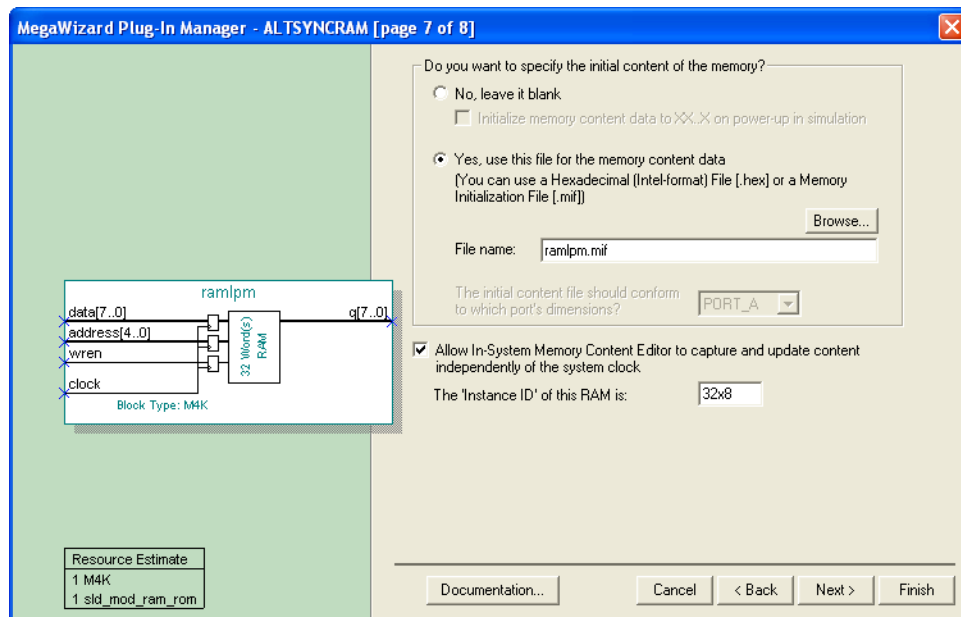
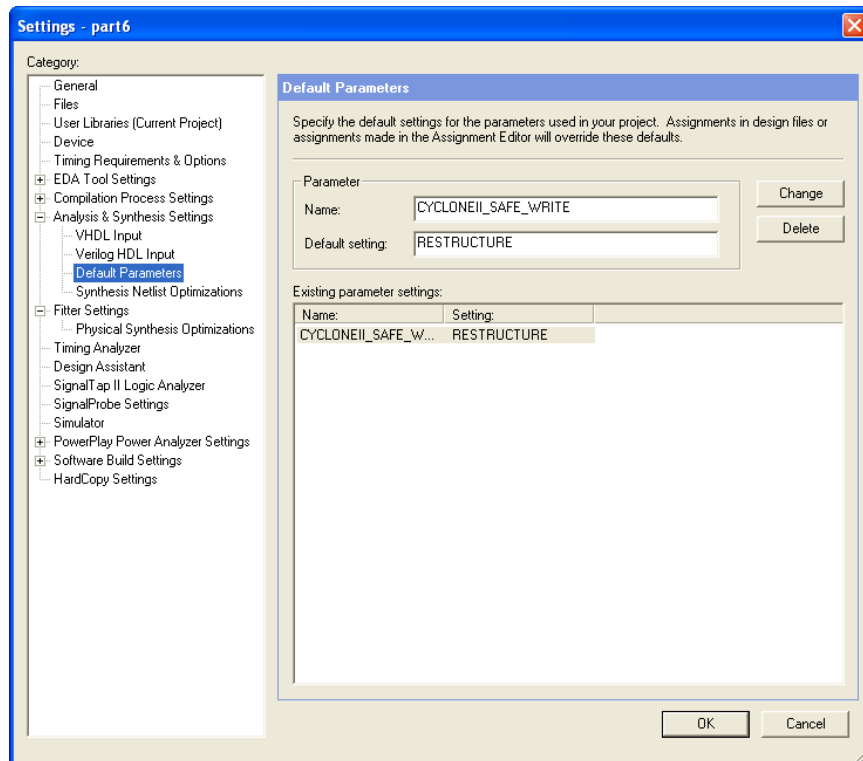

Figure 6. Configuring *altsyncram* for use with the In-System Memory Content Editor.
Figure 7. Setting the *CYCLONEII_SAFE_WRITE* parameter.
1. Create a new Quartus II project for your circuit, and use the MegaWizard Plug-in Manager to again create a single-port version of the *altsyncram* LPM. For Pages 1 to 6 of the Wizard use the same settings as in Part I. On Page 7, shown in Figure 6, specify the *ramlpm.mif* file as you did in Part V, but also make the setting Allow In-System Memory Content Editor to capture and update content independently of the system clock. This option allows you to use a feature of the Quartus II CAD system called the In-System Memory Content Editor to view and manipulate the contents of the created RAM module. When using this tool you can optionally specify a four-character 'Instance ID' that serves as a name for the memory; in Figure 7 we gave the RAM module the name 32x8. Complete the final steps in the Wizard.
3. Before you can use the In-System Memory Content Editor tool, one additional setting has to be made. In the Quartus II software select **Assignments > Settings** to open the window in Figure 7, and then open the item called **Default Parameters** under **Analysis and Synthesis Settings**. As shown in the figure, type the parameter name **CYCLONEII_SAFE_WRITE** and assign the value **RESTRICTURE**. This parameter allows the Quartus II synthesis tools to modify the single-port RAM as needed to allow reading and writing of the memory by the In-System Memory Content Editor tool. Click **OK** to exit from the Settings window.